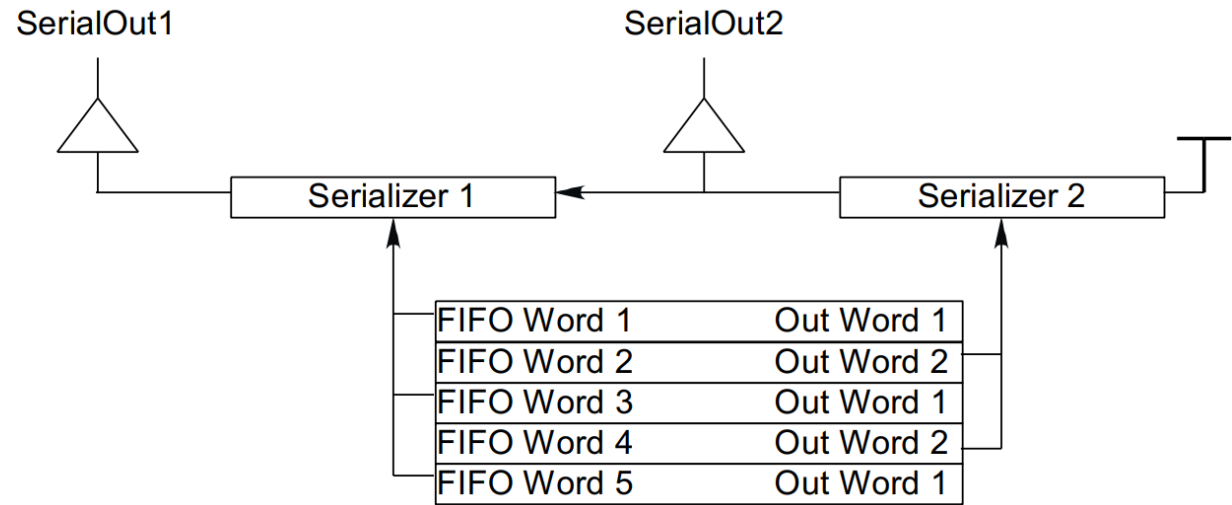

Figure 16 - The Serializers
- Disabling one active line means stop to use SerialOut2 in Figure 16.